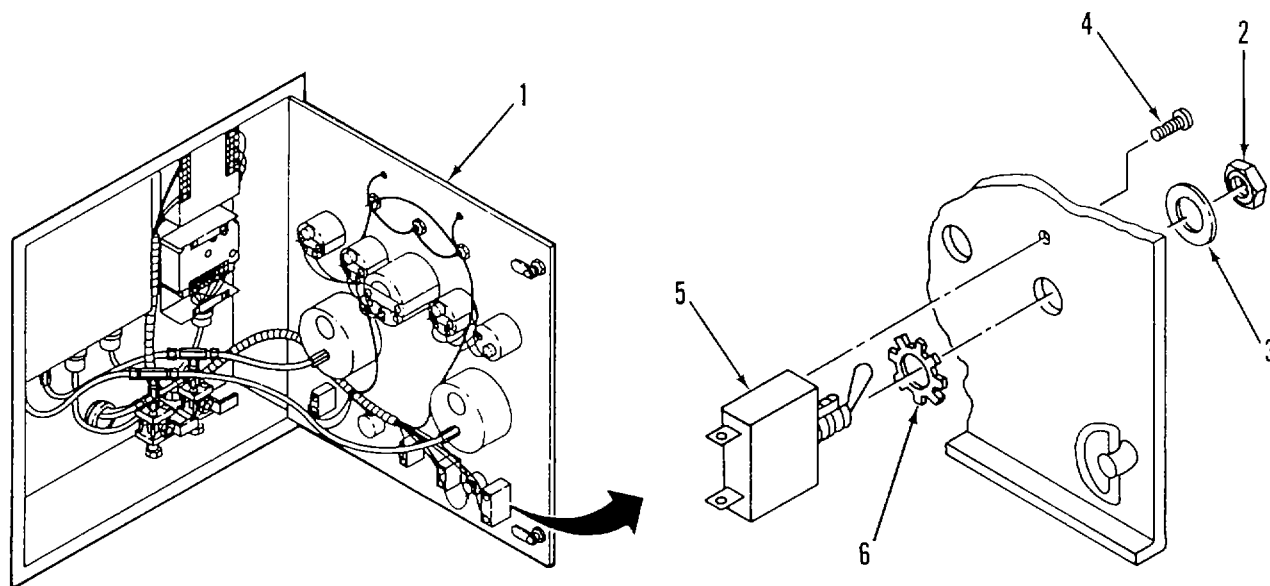

Figure 2-10. Electrical (Main) Switch
a. REMOVE. (Figure 2-10).
- (1) Open control panel door (1).